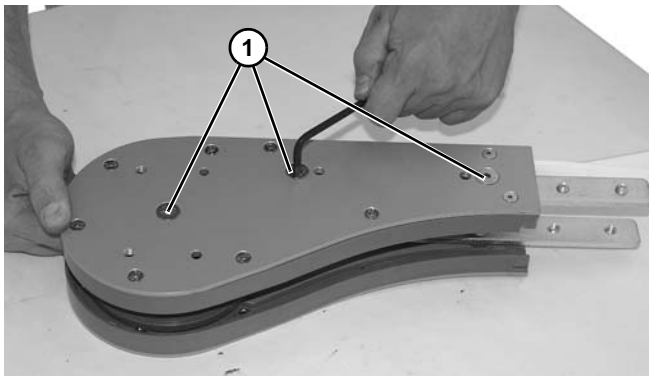

Figure 183
7. Remove three flat head screws (Figure 183, item 1).